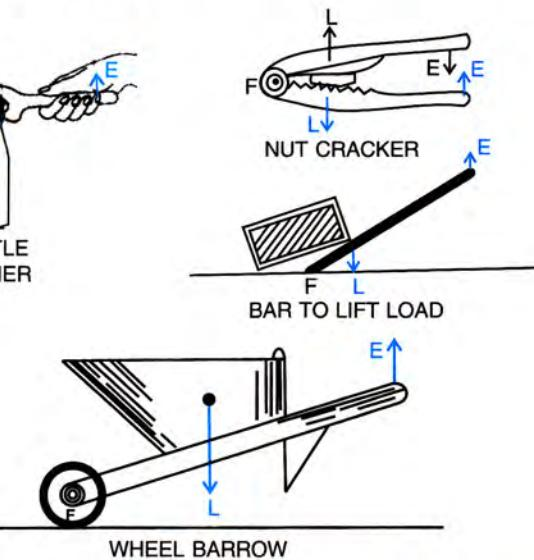

Fig. 3.4 Class II levers
**Examples :** A nut cracker, a bottle opener, a wheel barrow, a lemon crusher, a paper cutter, a mango cutter, a bar used to lift a load, a door, raising the weight of the human body on toes, are the examples of Class II levers. Some of these are shown in Fig. 3.4.